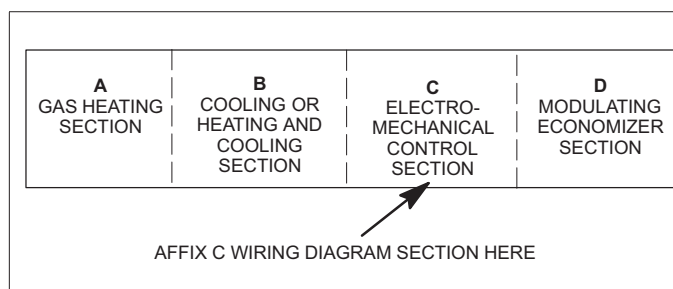

Figure 13. Affixing System Wiring Diagram
2. Wiring diagram sections are affixed to inside of unit panel in alphabetical order. "Figure 13. Affixing System Wiring Diagram" shows an example of a complete system diagram on an installation consisting of a unit with an electromechanical or electronic control system and a modulating economizer. Select the appropriate wiring diagram from the kit and affix the C section wiring diagram, provided, over the top of the existing C section wiring diagram.